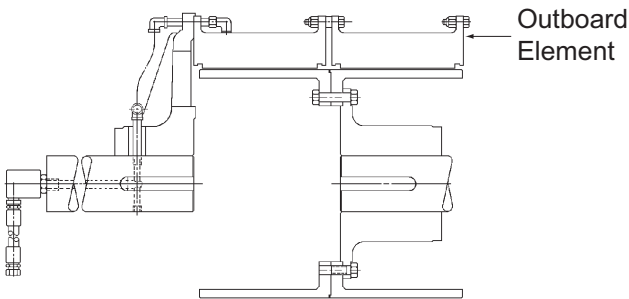

Figure 3
2.1.1 **Figure 3** illustrates the gap-mounting arrangement. In this arrangement, the element is attached to a spider which is typically mounted on the driving shaft. The drum is attached to a drum hub which is typically mounted on the driven shaft. The gap between the two shafts allows the element and drum to be removed without disturbing either shaft.